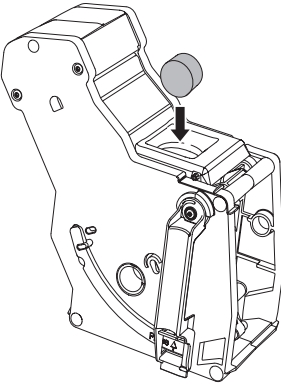

Fig. 17: Placing a cleaning tablet in the brewing unit.
7. Place the coffee grounds container beneath the outlet. 8. Remove the brewing unit without switching off the appliance. 9. Place a cleaning table in the brewing unit (see Fig. 17). Insert the brewing unit into the appliance. » The appliance indicates that the third programme stage is reached. » The cleaning process starts.